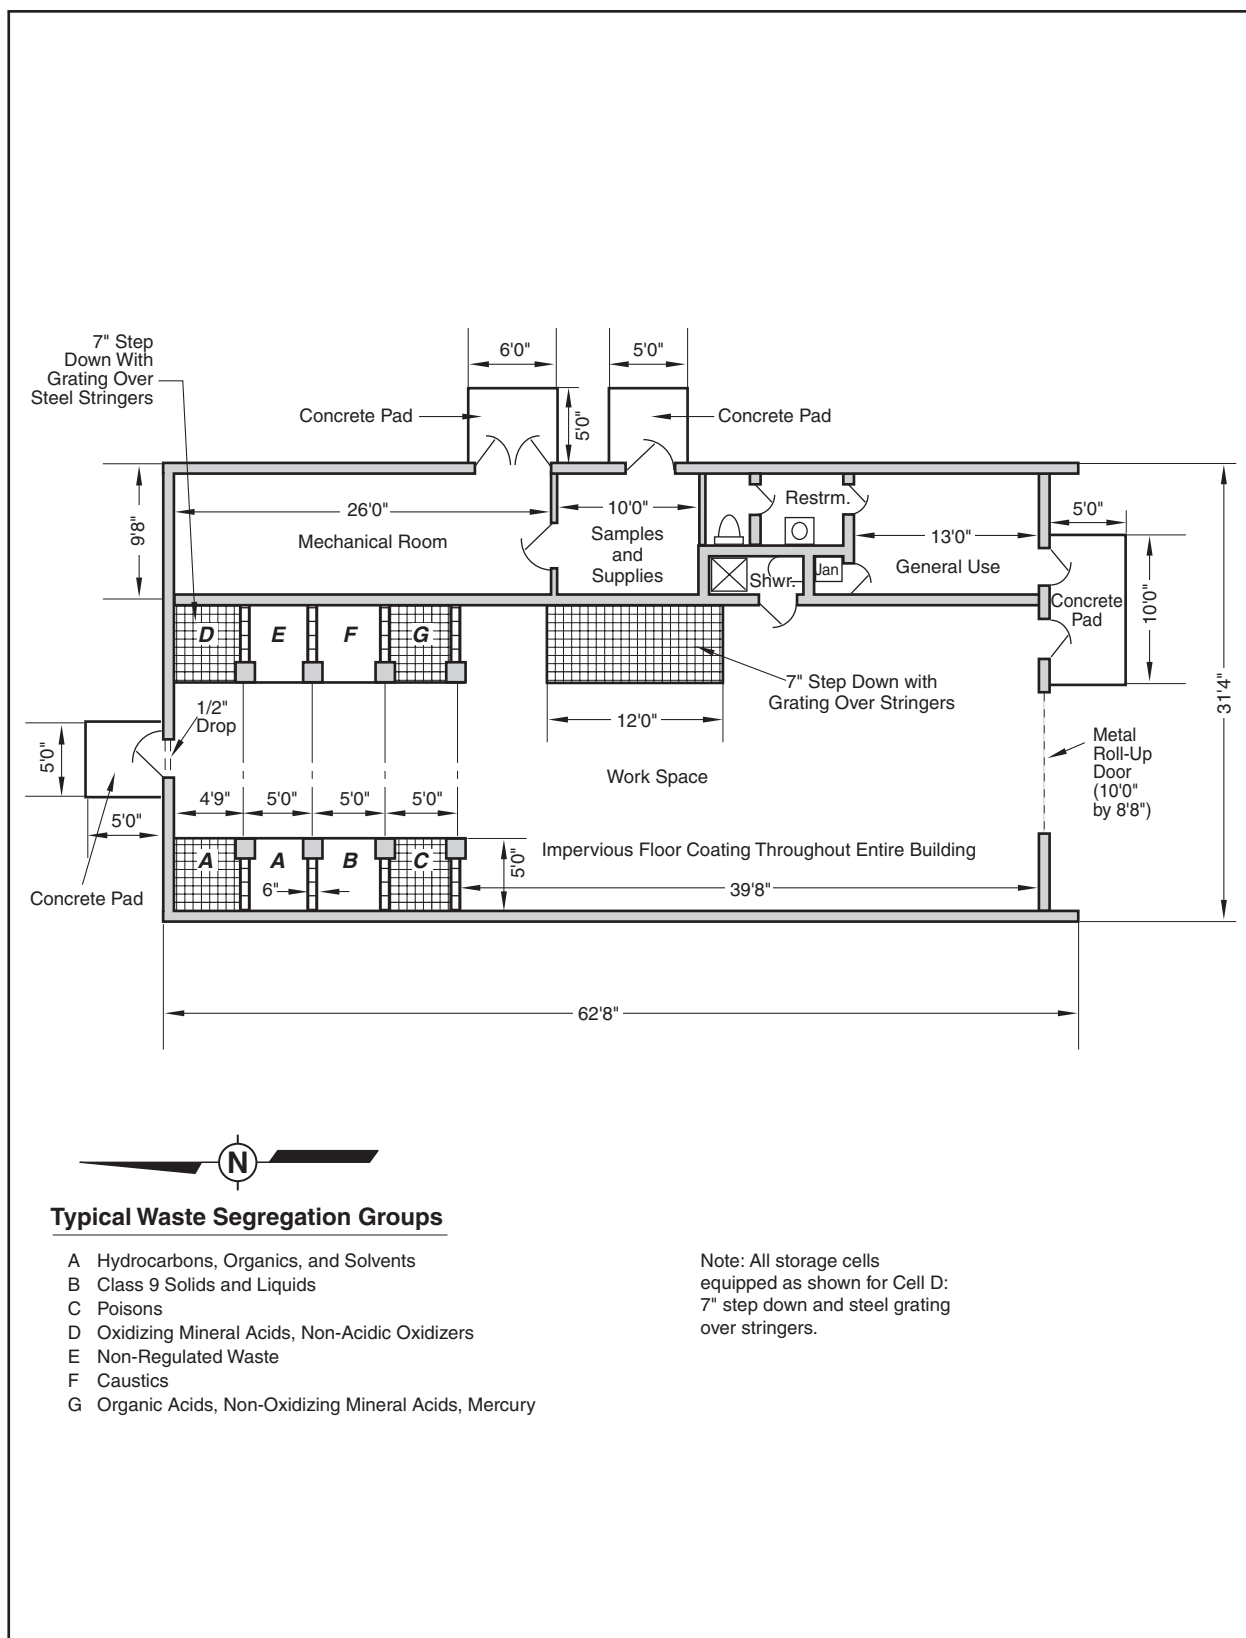

Figure 5
- Figure 5: Hazardous Waste Handling Unit Building 959 Floor Plan